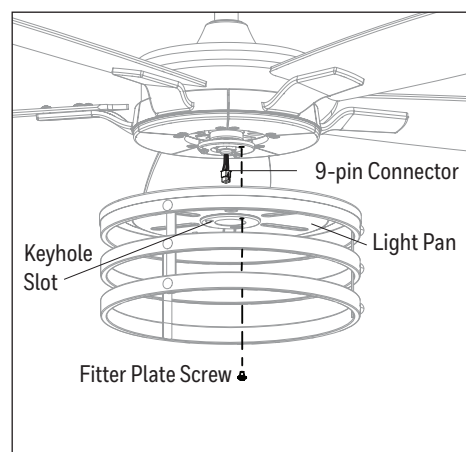

Figure 5.6
6. Remove one of the three fitter plate screws preassembled to the fitter plate and loosen the other two but do not remove. Feed the 9-pin connector through the center hole in the light pan. Align the keyhole slots in the light pan with the loosened screws in the fitter plate. Turn light pan clockwise and replace the previously removed fitter plate screw. Tighten all screws. (Figure 5.6).